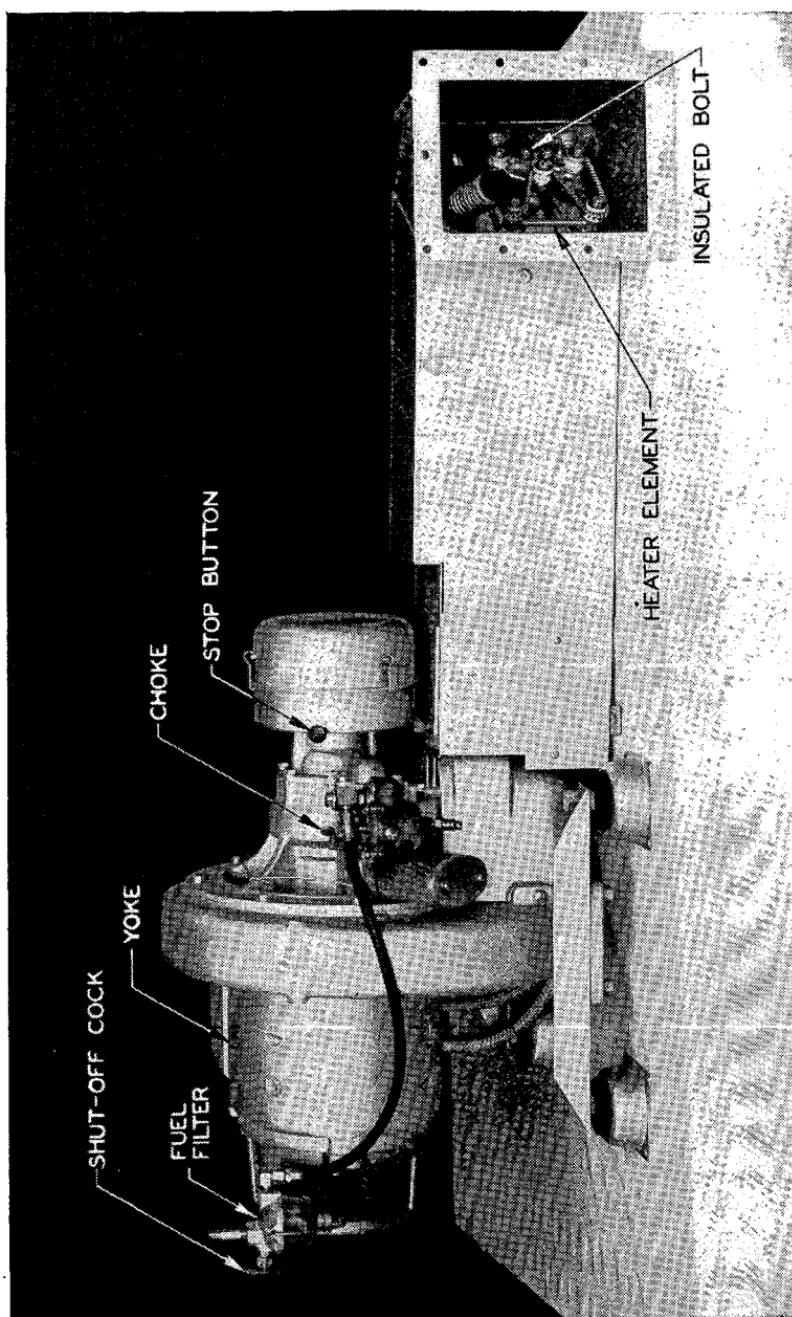

FIGURE 2.—Auxiliary generator model HRH-28—left side.
(2) Open shut-off cock on fuel filter beneath the fuel tank (fig 2). Full counterclockwise direction is open.
b. Cold weather starting—cold engine (below 50° F.).—(1) Close the carburetor choke (fig. 2). (The choke is open when the lever is against the stop pin.)
e. To stop engine.—Press the red stop button (fig. 2), and hold firmly until the engine stops. Close the fuel line shut-off cock beneath the fuel tank (fig. 2) (closed when in full clockwise position).
- (1) Fill tank with fuel and oil mixture.
- (2) Open shut-off cock.
- (3) Choke—if required.
- (4) Depress starting button or start manually.
- (5) Press red stop button for stopping.
- (6) Close fuel shut-off cock.